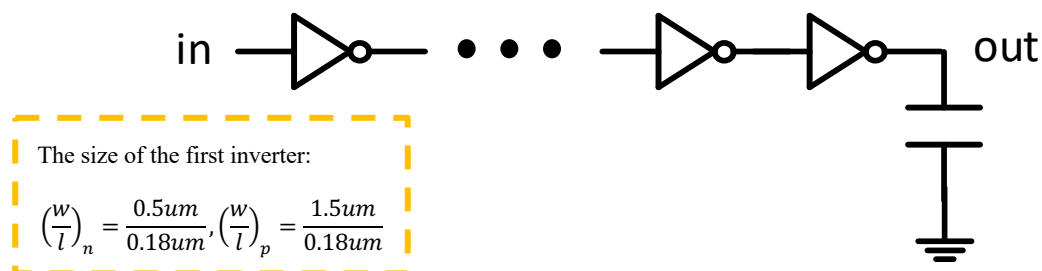

Fig. 2
2. Run an inverter chain with output loading 0.5pF with VDD = 1.8V, as shown in Fig 2. (The size of the first inverter has been assigned.) (The rising time and falling time of input is 0.1ns & input frequency = 5MHz). Please determine **how many stages** this inverter chain needs and the **size of each stage** to achieve **the minimum delay**. (55%)